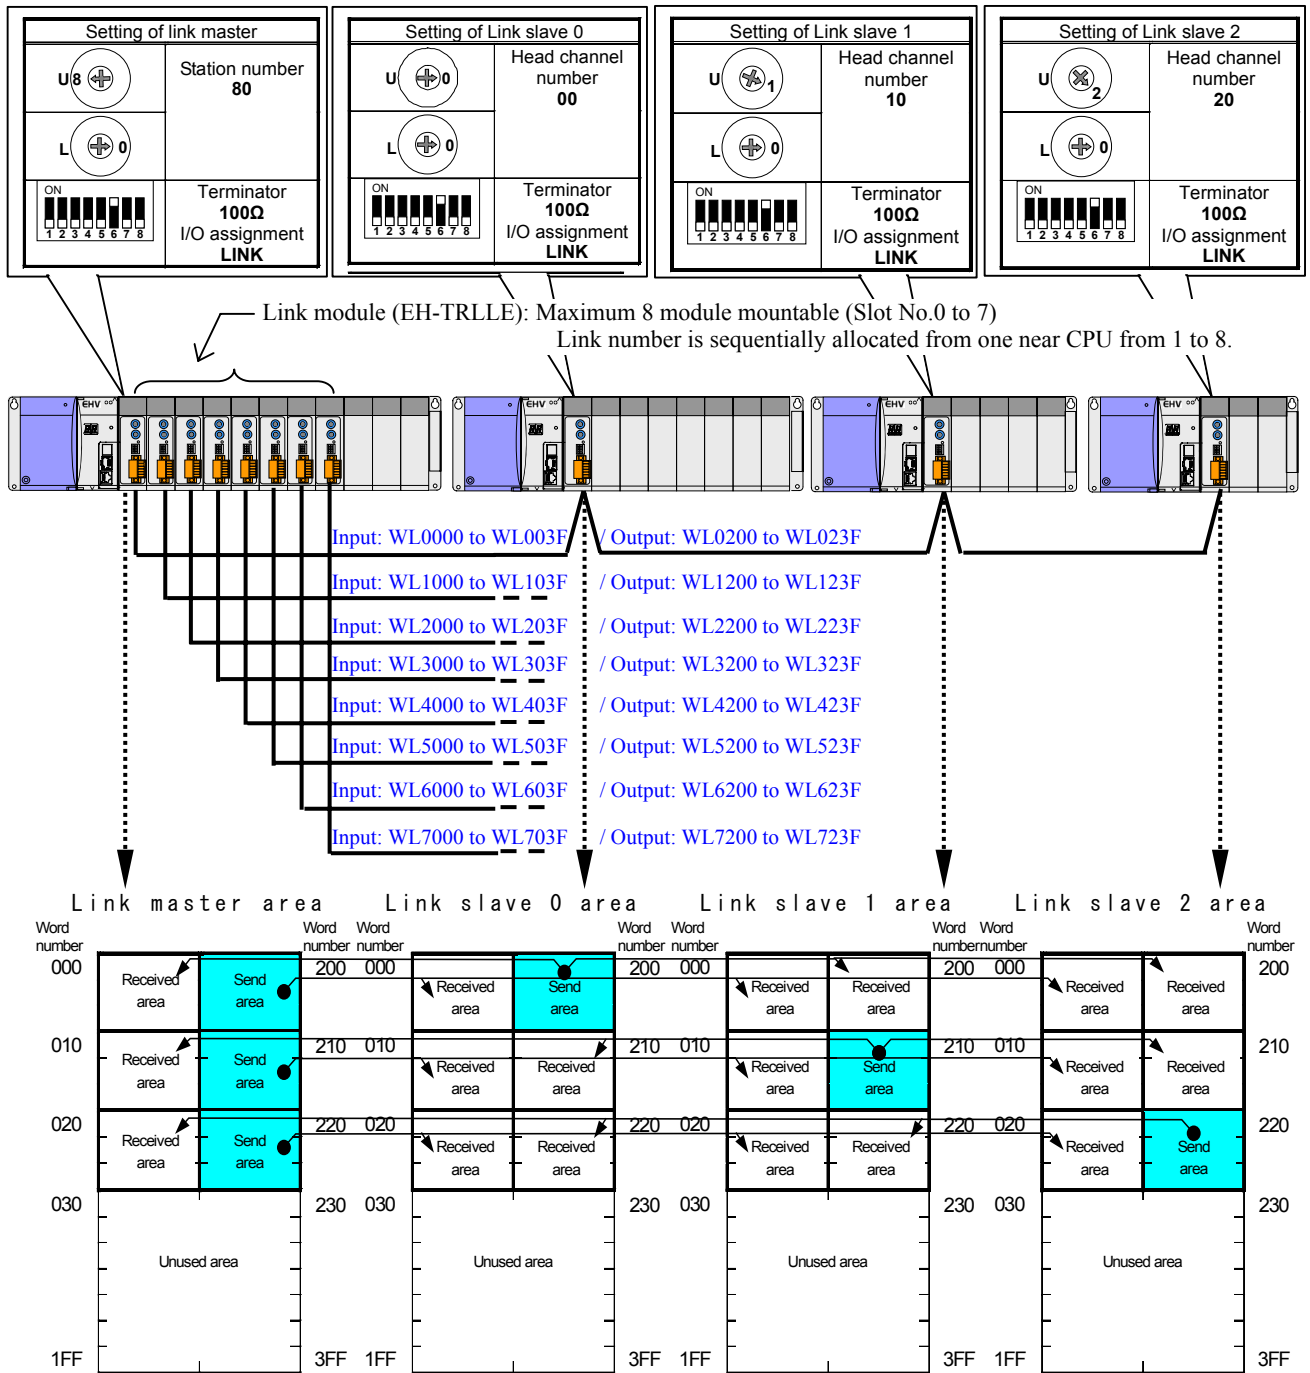

Figure 4.3.1 System configuration example (Master/ Slave: Mode0)
Figure 4.3.1 is the system configuration example that compact link modules were set to Mode0. When the compact link module was set to Mode0, I/O assignment becomes "LINK". Refer to section 3.1 for the setting method of the Mode0.
- 4) This operation mode can connect to maximum 12 slave stations per system. (Figure 4.3.1 is the example that 3 slave stations were connected.)
- 5) Compact link modules can mount maximum 8 modules per CPU to the base unit depending on combination with CPU. The link modules are assigned LINK from No.1 to No.8 in the order that is near to CPU. Refer to section 4.2.1 (1) for the details.